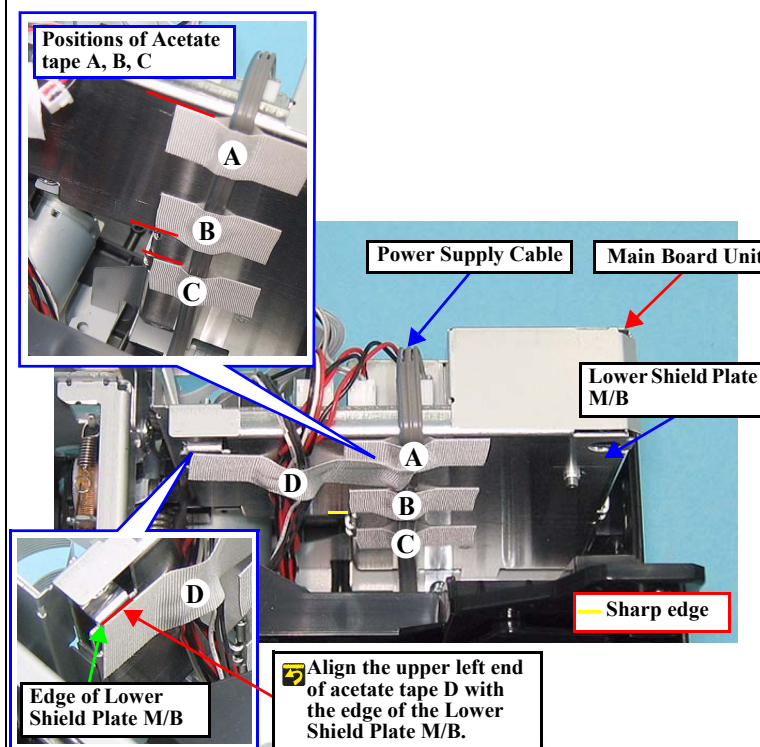

Figure 1-26. Routing the Cables
1. Route the Power Supply Cable closely along the Lower Shield Plate M/B, and secure the cable with acetate tapes at the positions A, B, and C (30 mm each) as shown in Fig.1-26.
2. Avoiding the sharp edge shown in Fig.1-26, secure the following cables with the acetate tape D (50 mm).